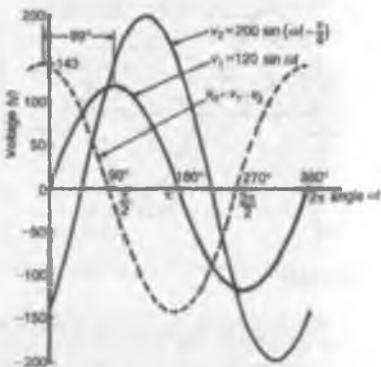

Figure 14.13
- (a) $v_1 = 120 \sin \omega t$ and $v_2 = 200 \sin(\omega t - \pi/4)$ are shown plotted in Fig. 14.13. Care must be taken when subtracting values of ordinates especially when at least one of the ordinates is negative. For example
The resultant waveform, $v_R = v_1 - v_2$, is shown by the broken line in Fig. 14.13. The maximum value of v_R is 143 V and the waveform is seen to lead v_1 by 99° (i.e. 1.73 radians).